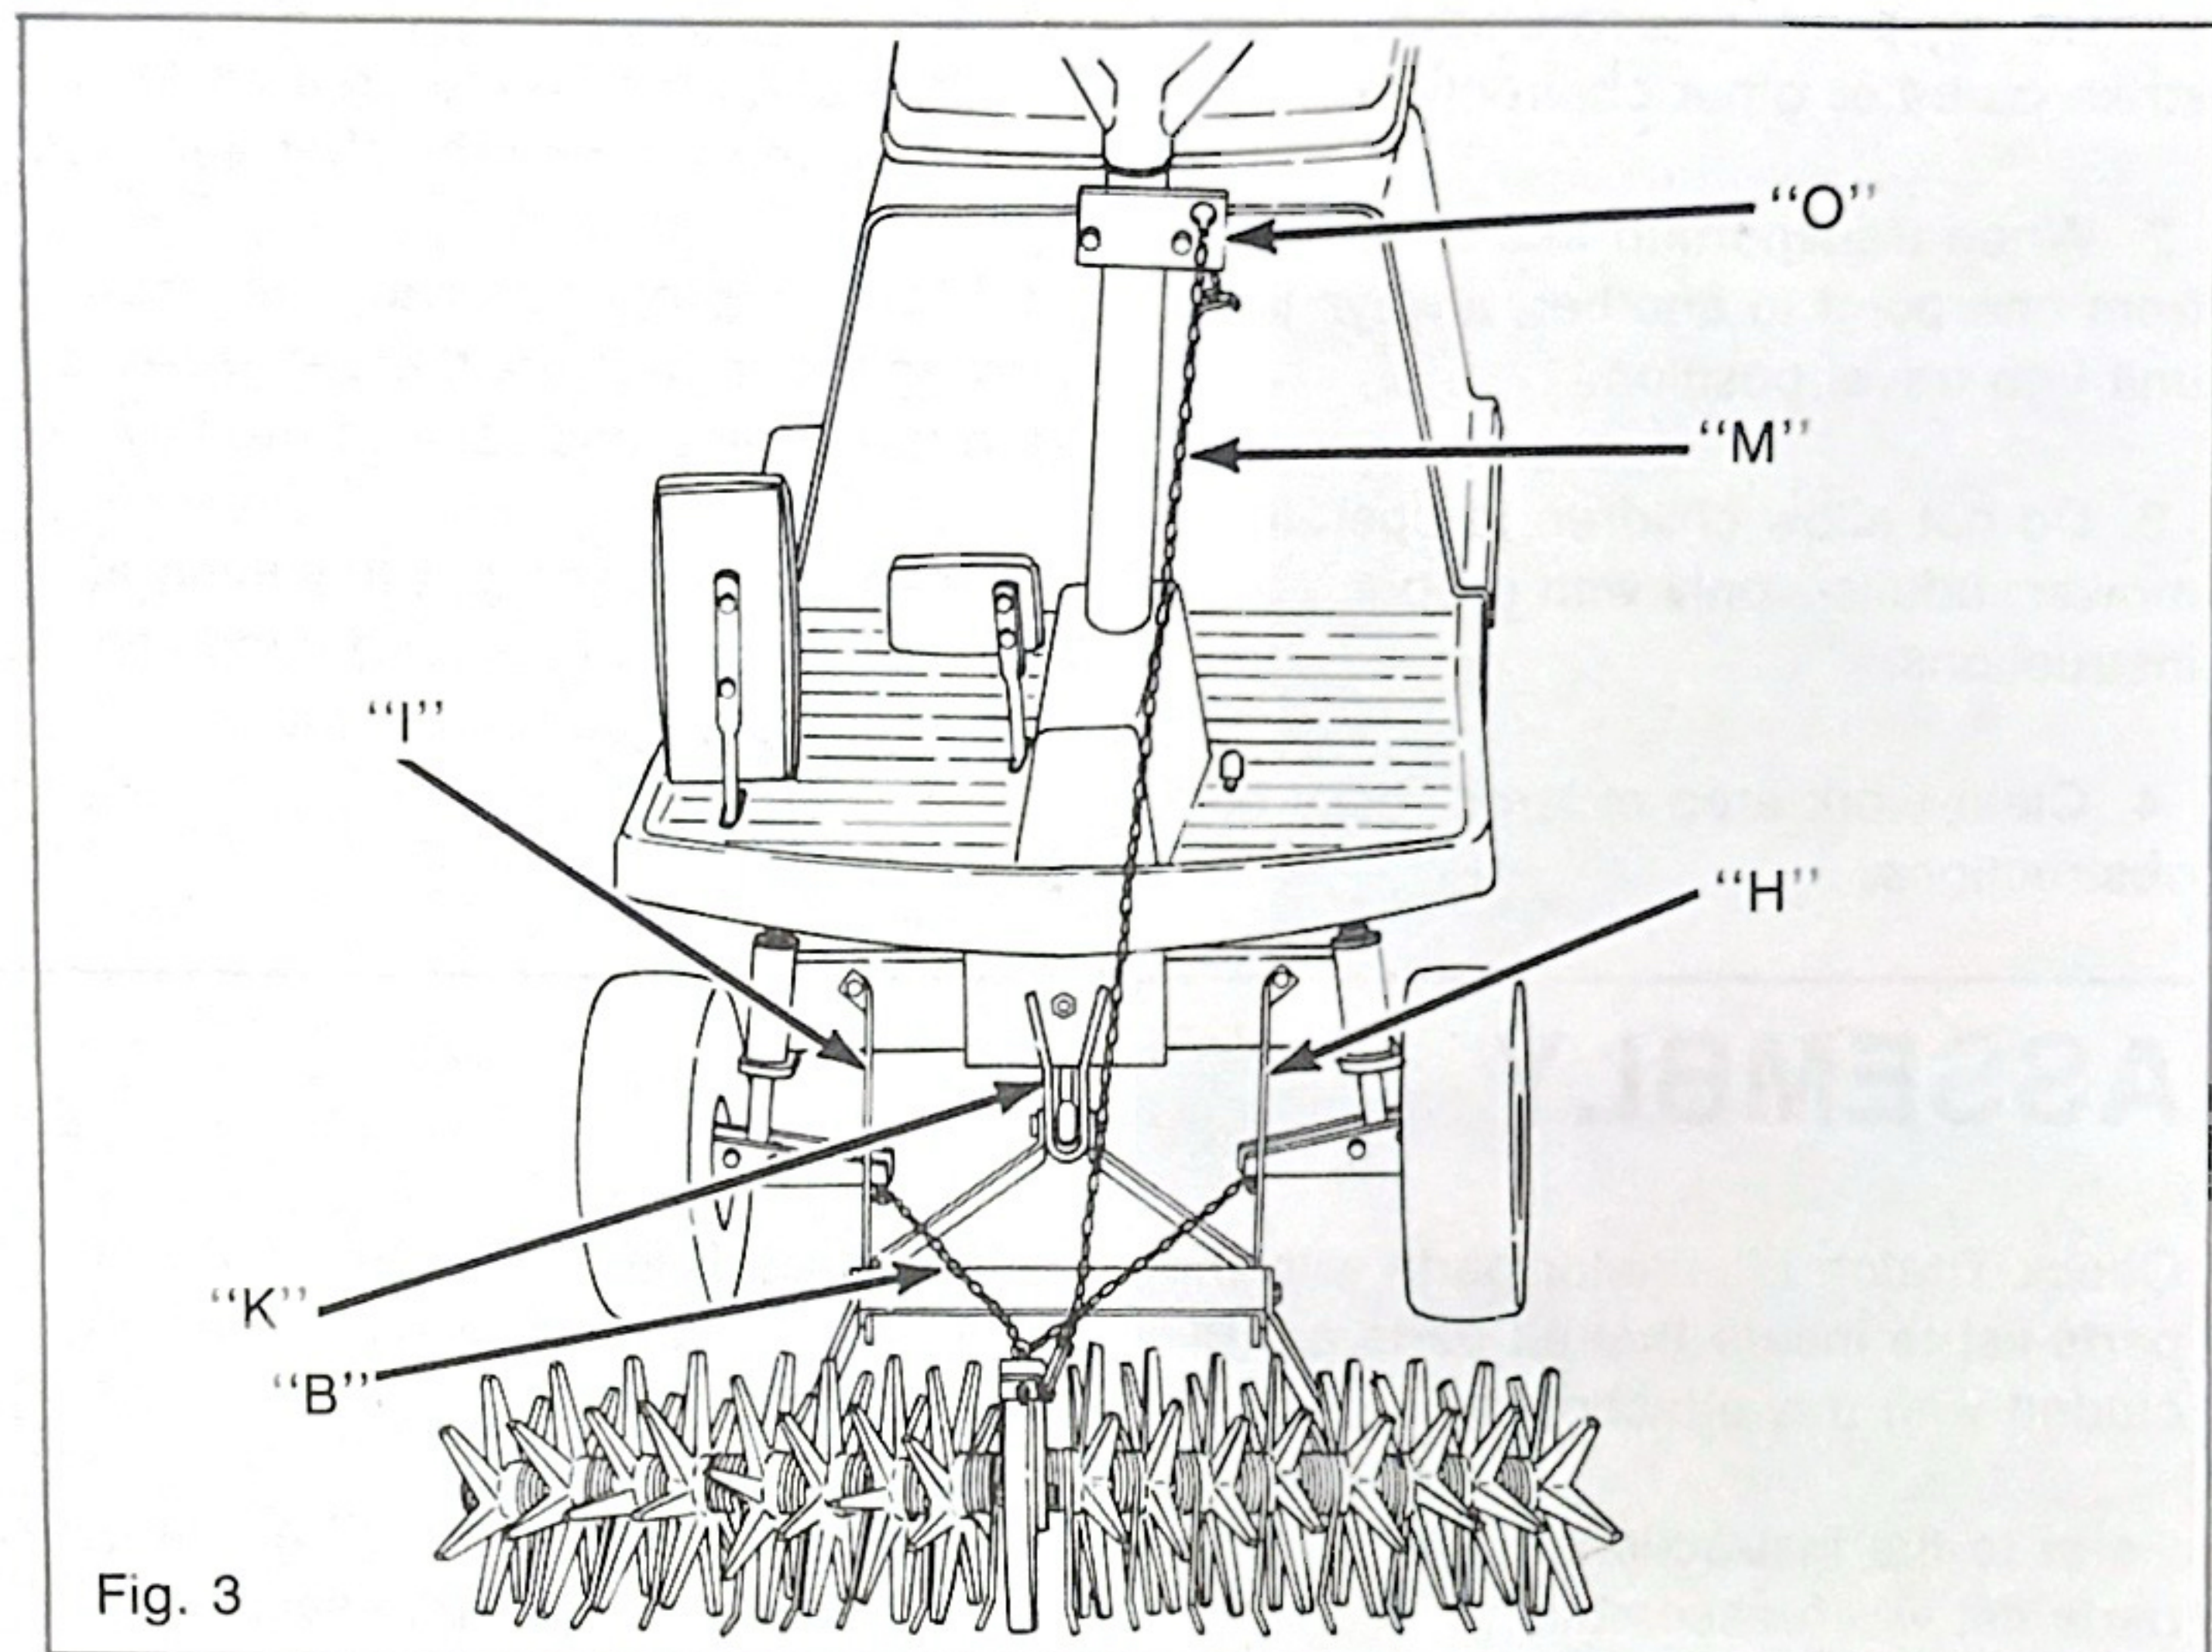

Fig. 3
4. Remove the center clevis pin of mower anchor bracket "K" Figure 3, and secure center pivot to outside of anchor brace using the clevis pin supplied and present hitch pin.
1. When cutting, keep the thatcher in the transport position by lifting chain "M" Figure 3 and locking in slot of latch plate "O".